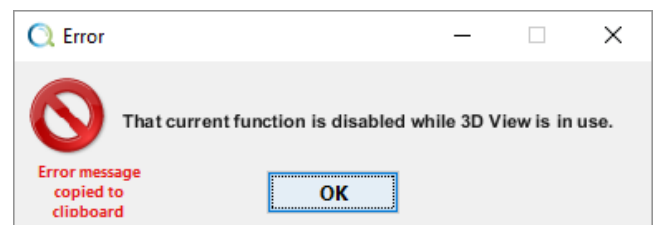

Figure 77: 3D Viewer error message.
- A certain number of functionalities are deactivated when 3D Viewer is on. Trying to force them shall end up to the error message in Figure 77.